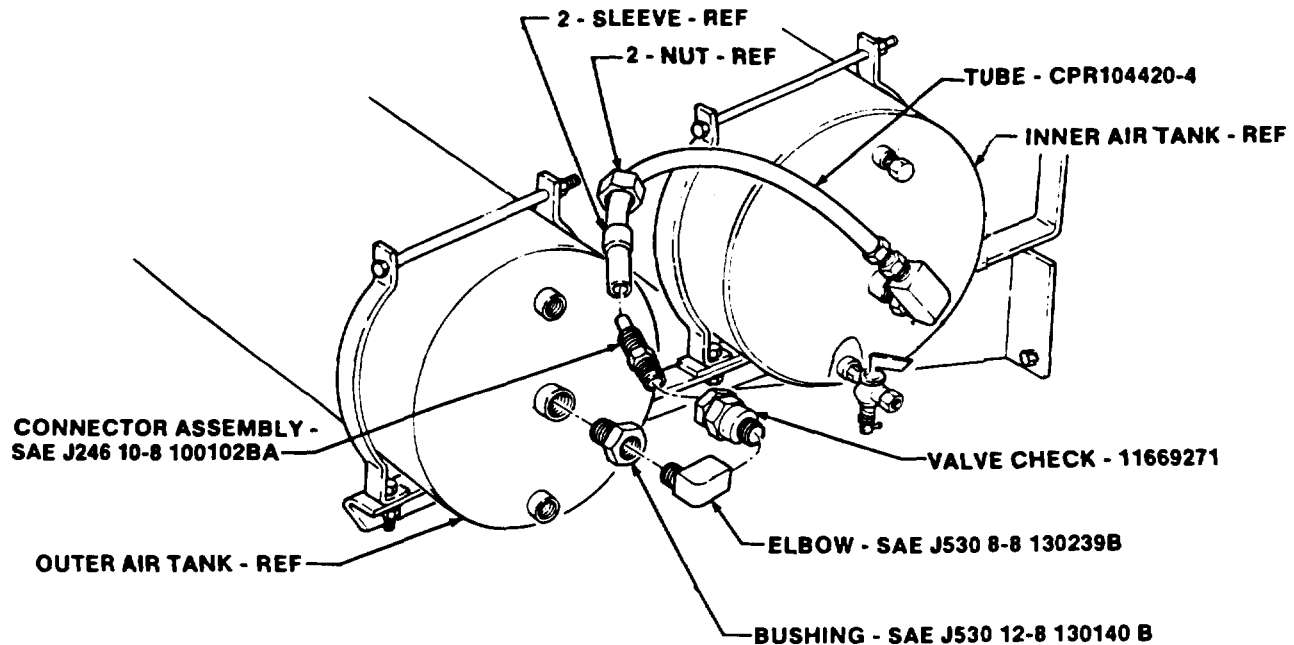

FIGURE 9
(4) Install SAE J530 12-8 130140B bushing in forward end of outer air tank as shown in figure 9.
(5) Install SAE J530 8-8 130239B elbow in bushing on outer air tank as shown in figure 9.
(6) Install 11669271 check valve in elbow on outer air tank as shown in figure 9.
(7) Install SAE J246 10-8 100102BA connector assembly in check valve on outer air tank as shown in figure 9. Retain sleeve and nut for use in step 8.
(8) Install CPR1044204 tube to inner and outer air tanks and secure with two sleeves and nuts as shown in figure 9.